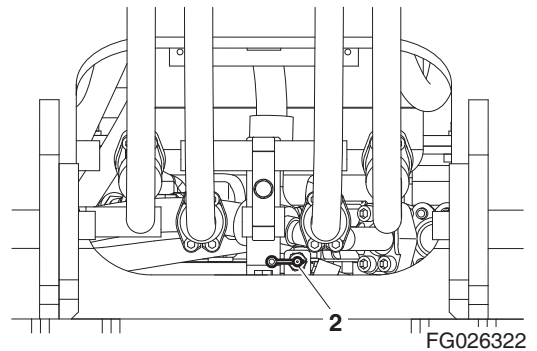

Figure 88
3. Press grease fitting and inject grease with the grease gun on the marked point (2, Figure 88).